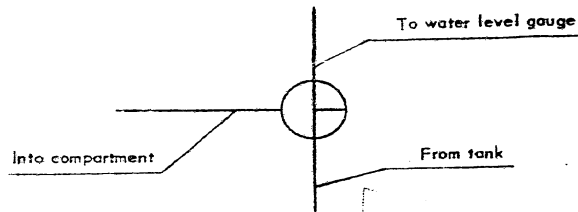

FIG. 2
6. Cocks 17, 18 and 19 of water level gauges are set to position shown in Fig.2.